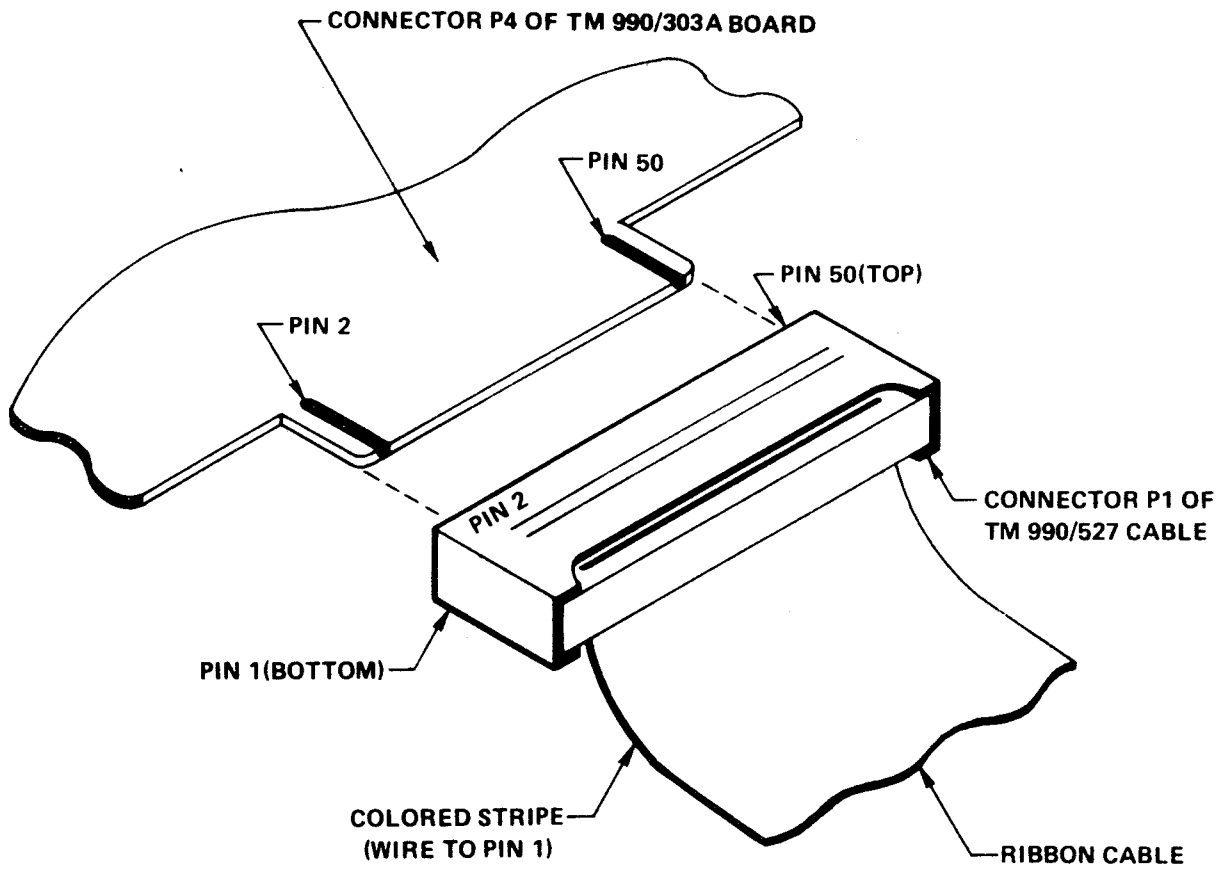

FIGURE 2-2. CONNECTING TM 990/527 DISK DRIVE CABLE TO P4 OF TM 990/303A
The TM 990/527 cable connects the TM 990/303A floppy controller (slot 1) to the eight-inch disk drive as shown in Figures 2-2 and 2-3.
- 3) The TM 990/527 cable has three connectors on it; one for the TM 990/303A edge connector, and two connectors for two disk drives. The end with the two connectors closest together connects to the disk drive(s). Connect the other end to connector P4 on the disk controller board as shown in Figure 2-2. The colored stripe and pin 2 go to the left of connector P4 when properly installed. (The colored stripe runs along the wire to pin 1.) Also, the cable must point downward from the board edge connector when installed.